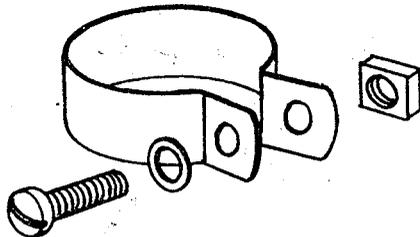

FIGURE 6
9. Assemble all 1-1/4" stainless steel clamps, using the 1-1/4"-20 x 3/4" filister head screws with flatwashers, lockwashers, and 1/4"-20 square nuts as shown in Figure 6.